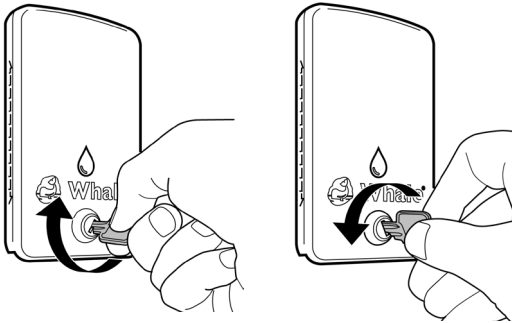

Figure 3. Locking and Unlocking Lid
- (Figure 3) Onboard Tank Fill Socket and Onboard Tank Fill + 12v Socket lids incorporate a lock for safety and to restrict access to your fresh water supply. Turn clockwise to lock and anticlockwise to unlock the lid.